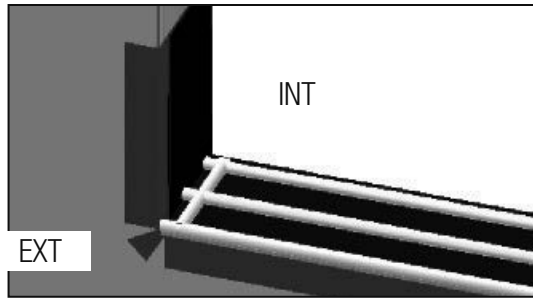

FIG. 12
- b. Apply a 1/4" continuous bead of silicone 1/2" from each side of the rough opening. The bead will run the entire depth of the jamb starting at the face of the wall. (Fig. 12)